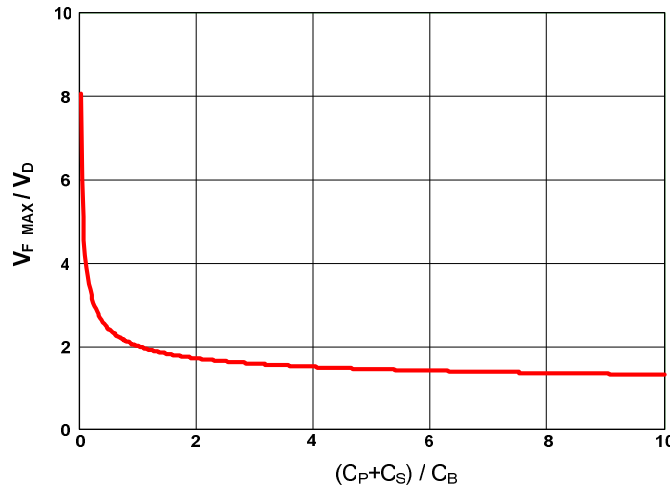

Figure 12 — C_s Value Effect on the SR FET Voltage Spike
From (6) and figure 12, we can know by designing C_s larger, the damping effect on SR FET voltage spike will be better. But in real application, considering the power loss on RC snubber in (7), C_s is not recommended to be set too large. Generally we choose C_s as 2~3 times of C_p for a fairly well damping effect.